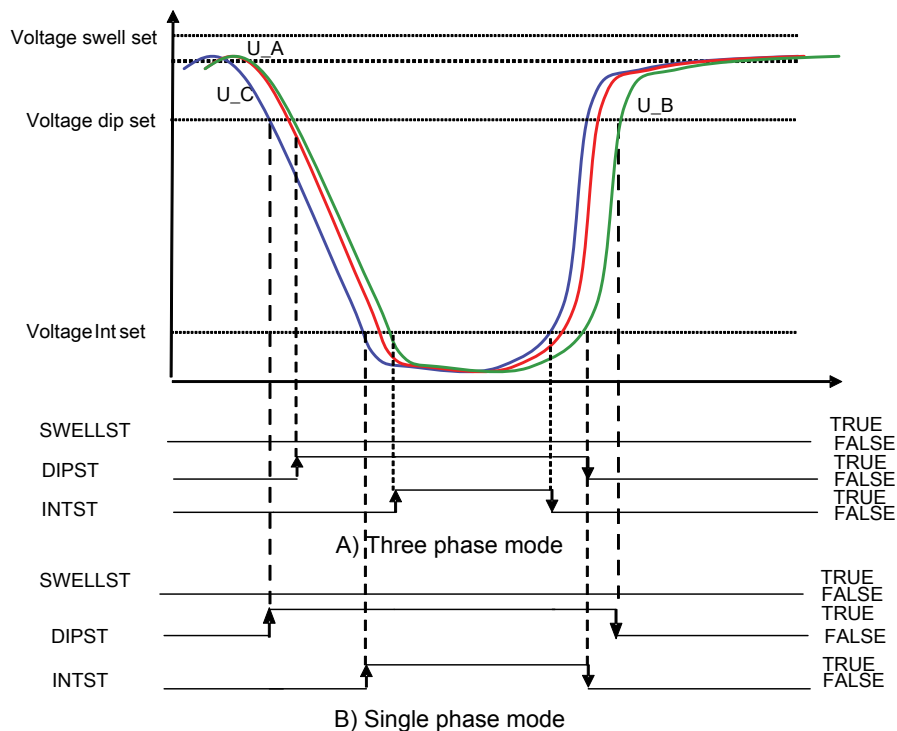
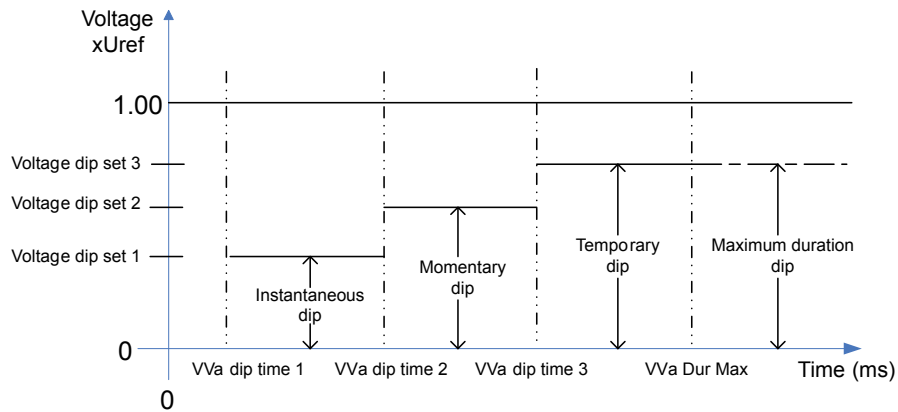

Figure 487: Detection of three-phase voltage interruption
Figure 488: Voltage dip operational regions
*Figure 488* shows voltage dip operational regions. In *Figure 487*, only one voltage dip/swell/Int set is drawn, whereas in this figure there are three sub-limits for the dip operation. When *Voltage dip set 3* is undershot, the corresponding `ST_x` and also the `DIPST` outputs are activated. When the TRMS voltage magnitude remains between *Voltage dip set 2* and *Voltage dip set 1* for a period longer than *VVa dip time 2* (shorter time than *VVa dip time 3*), a momentary dip event is detected. Furthermore, if the signal magnitude stays between the limits longer than *VVa dip time 3* (shorter time than *VVa Dur max*), a temporary dip event is detected. If the voltage remains below *Voltage dip set 1* for a period longer than *VVa dip time 1* but a shorter time than *VVa dip time 2*, an instantaneous dip event is detected.
The provided rules always apply for single-phase (*Phase Mode* is "Single Phase") power systems. However, for three-phase power systems (where *Phase Mode* is "Three Phase"), it is required that all the phases have to be activated before the activation of the `START` output. Interruption event indication requires all three phases to undershoot *Voltage Int set* simultaneously, as shown in Figure 487. When the requirement for interruption for "Three Phase" is no longer fulfilled, variation is indicated as a dip as long as all phases are active.